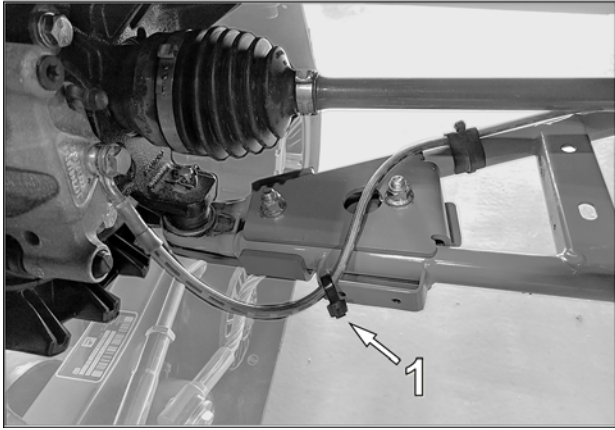

Fig. 25
1. If the front brake's hose has too much play, secure it to the lower suspension arm with an additional zip-tie (1), as shown in Fig. 25